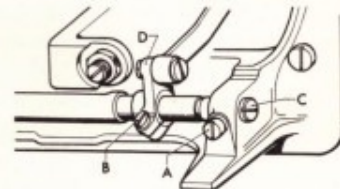

Fig. 3
2. Loosen screw (B) Fig. 3.
4. Tighten screw (B) Fig. 3 securely.